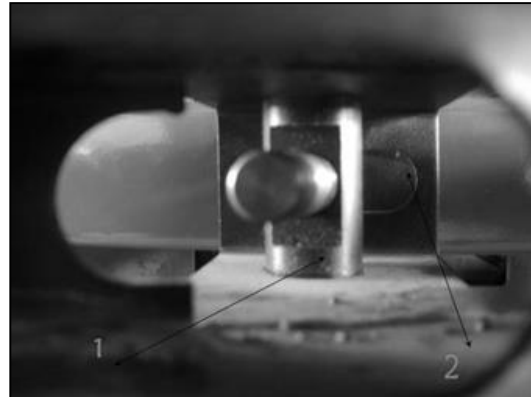
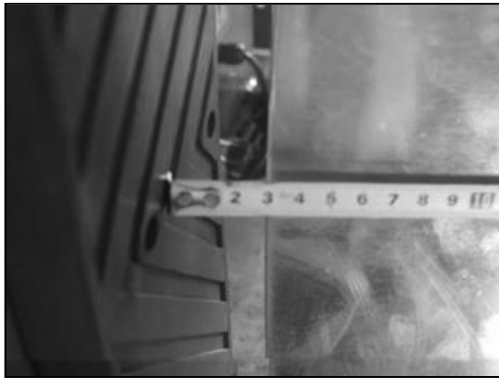

Fig. 10
Fig. 11
3.2.5 Position the bead breaking Arm Shaft Bushing into the bead breaking Support Plate on the body (Fig. 9-1) to align the hole and install the bead breaking bolt (Fig. 9-2) and assemble the nut to lock (Fig. 8-4). Insert the piston rod (Fig.10-2) through the hole of the bead breaking slide bushing (Fig. 10-1). The surface of the slide bushing should be facing outwards (Fig. 10). Assemble the removed nut (Fig. 8-1) into the front end of the piston rod. The distance from the edge of the bead breaking blade to the bead breaker's rubber pad is 1-3/16" to 1-1/2" (30-40mm) as shown in Fig.11. Install the return spring (Fig. 9-3)